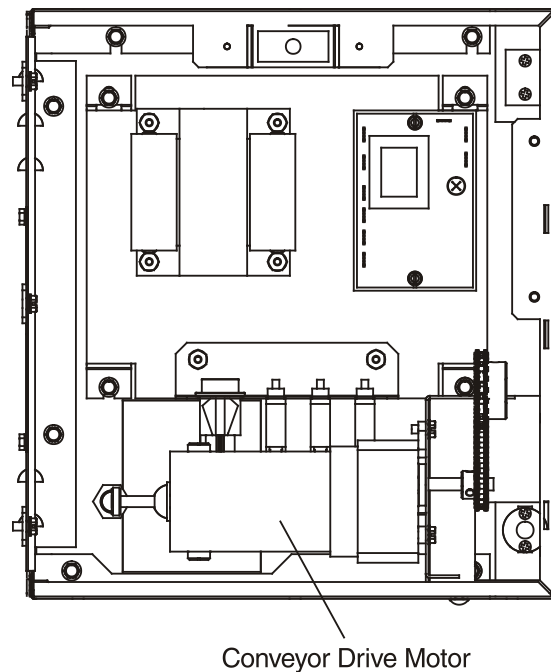
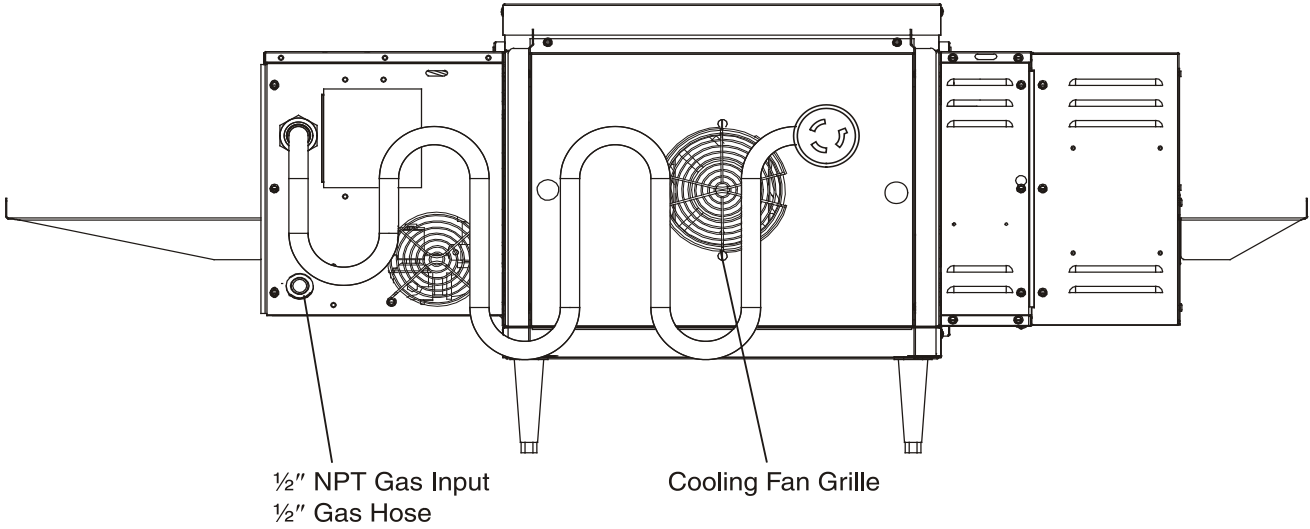

Figure 1-5. Machinery Compartment Components
Figure 1-6. Cooling Fan
The conveyor belt is driven by a variable-speed electric motor (Figure 1-5) operating through a gear reducer. The motor speed is controlled by a digital control. The stainless-steel wire belt can travel in either direction at variable rates ranging from 3 minutes to 30 minutes; this is the time that a product can take to pass through the oven.
D. Cooling Fan — See Figure 1-5 and Figure 1-6